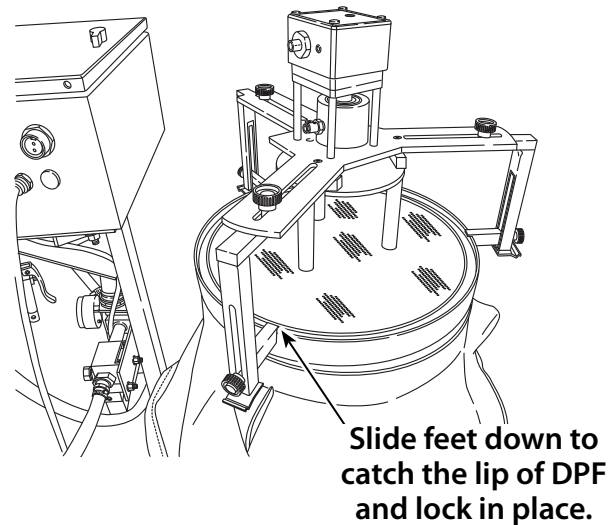

Figure 9
5. Place the fixture on top of the gauge. Slide the feet down onto the lip of the DPF and lock them, centered and evenly, into place. (Figure 9)